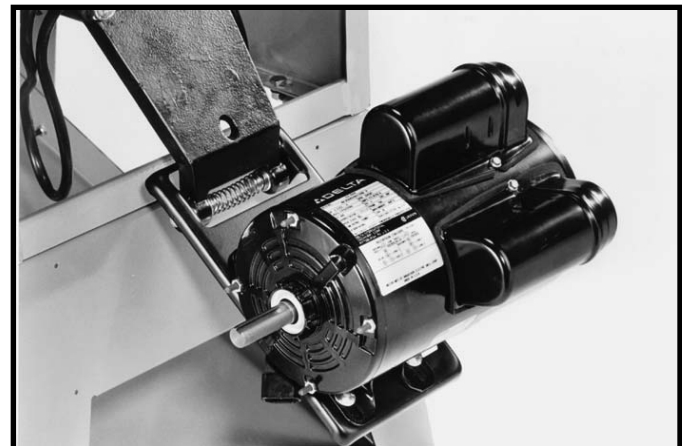

Fig. 14
4. Fig. 14 illustrates the motor and motor mounting plate assembled to the rear of the saw.